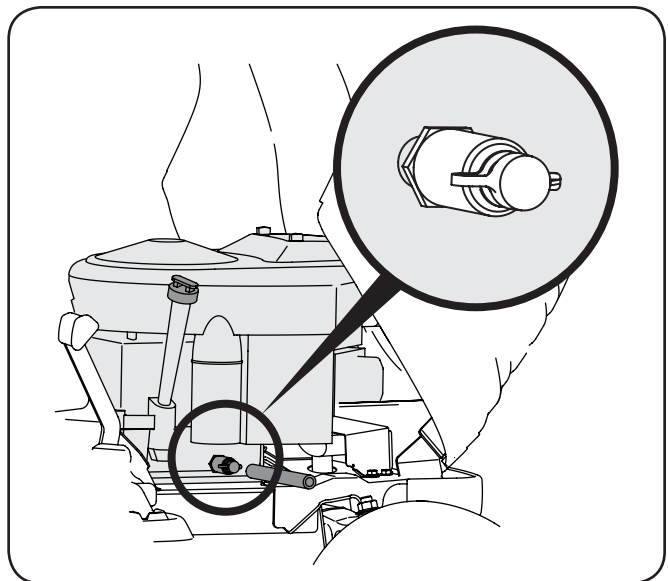

Figure 6-2
3. Pop open the protective cap on the end of the oil drain valve to expose the drain port. See Fig 6-2.
drain the oil. See Fig 6-2.